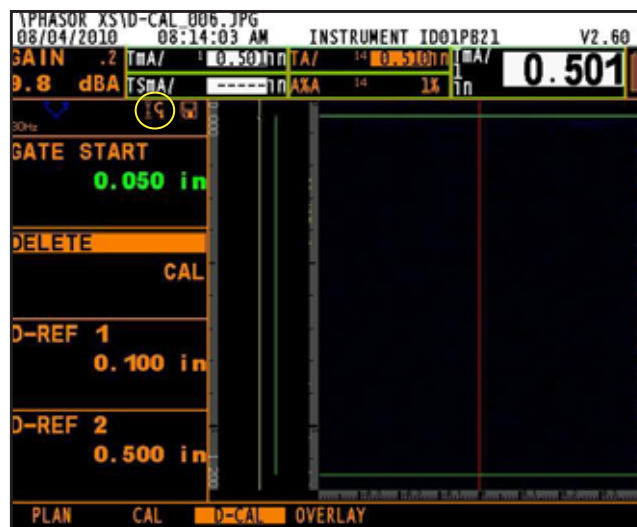

Figure 77: Selecting the D-CAL Icon
6. Press **RECORD** twice. The D-CAL icon (Figure 77 below) will appear when the procedure is successfully completed.